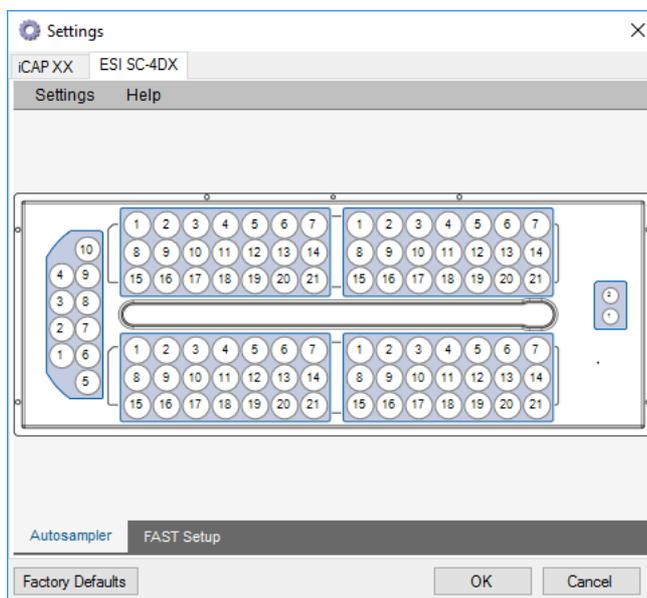

Figure 14-15. Autosampler tab of ESI autosampler
- a. In the Experiment Configurator applet, right-click the ESI peripheral (for example, ESI SC-4DX) and select **Edit settings** from the shortcut menu, see Figure 3-11. The Settings dialog opens, see Figure 14-15.